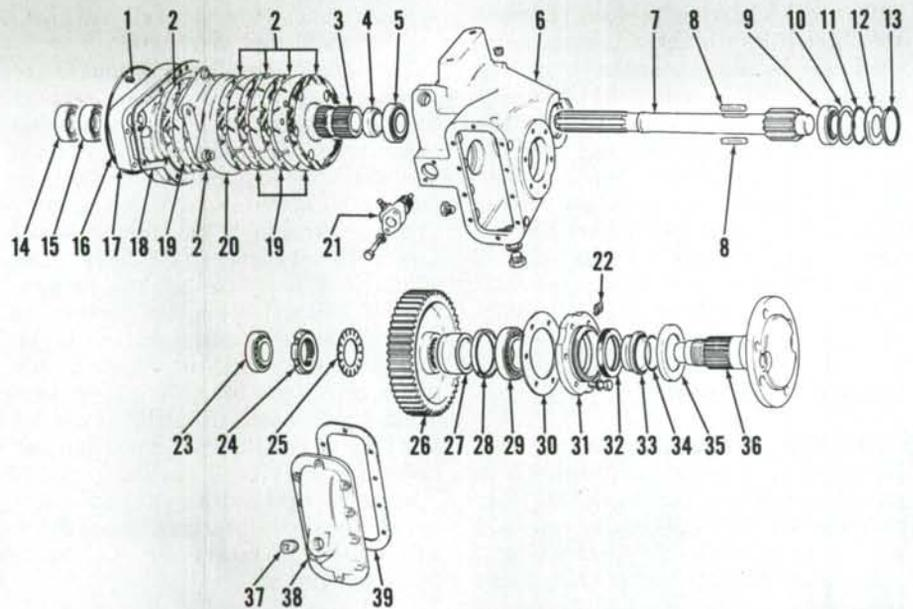

Fig. 217—Exploded view of Model 1490 final drive assembly. Final drive used on Model 1494 is similar.
**282. DISASSEMBLY.** It is not necessary to remove cab or platform to service final drives. Stub axle (36—Fig. 217) and bull gear (26) can be removed without removing final drive housing.
**283. REASSEMBLY.** Heat bearing cones to 120°C (250°F) maximum before installing onto axle shaft (7—Fig. 217). Install spacer (4) with chamfered side towards bearing. Install inner bearing cup in housing, then install axle shaft assembly. Install outer bearing cup and end cover (12) without shims (10) and "O" ring (11). Make sure all parts are properly seated, then use a dial indicator to measure axle shaft end play. Remove snap ring and end cover. Install shim (10) thickness equal to